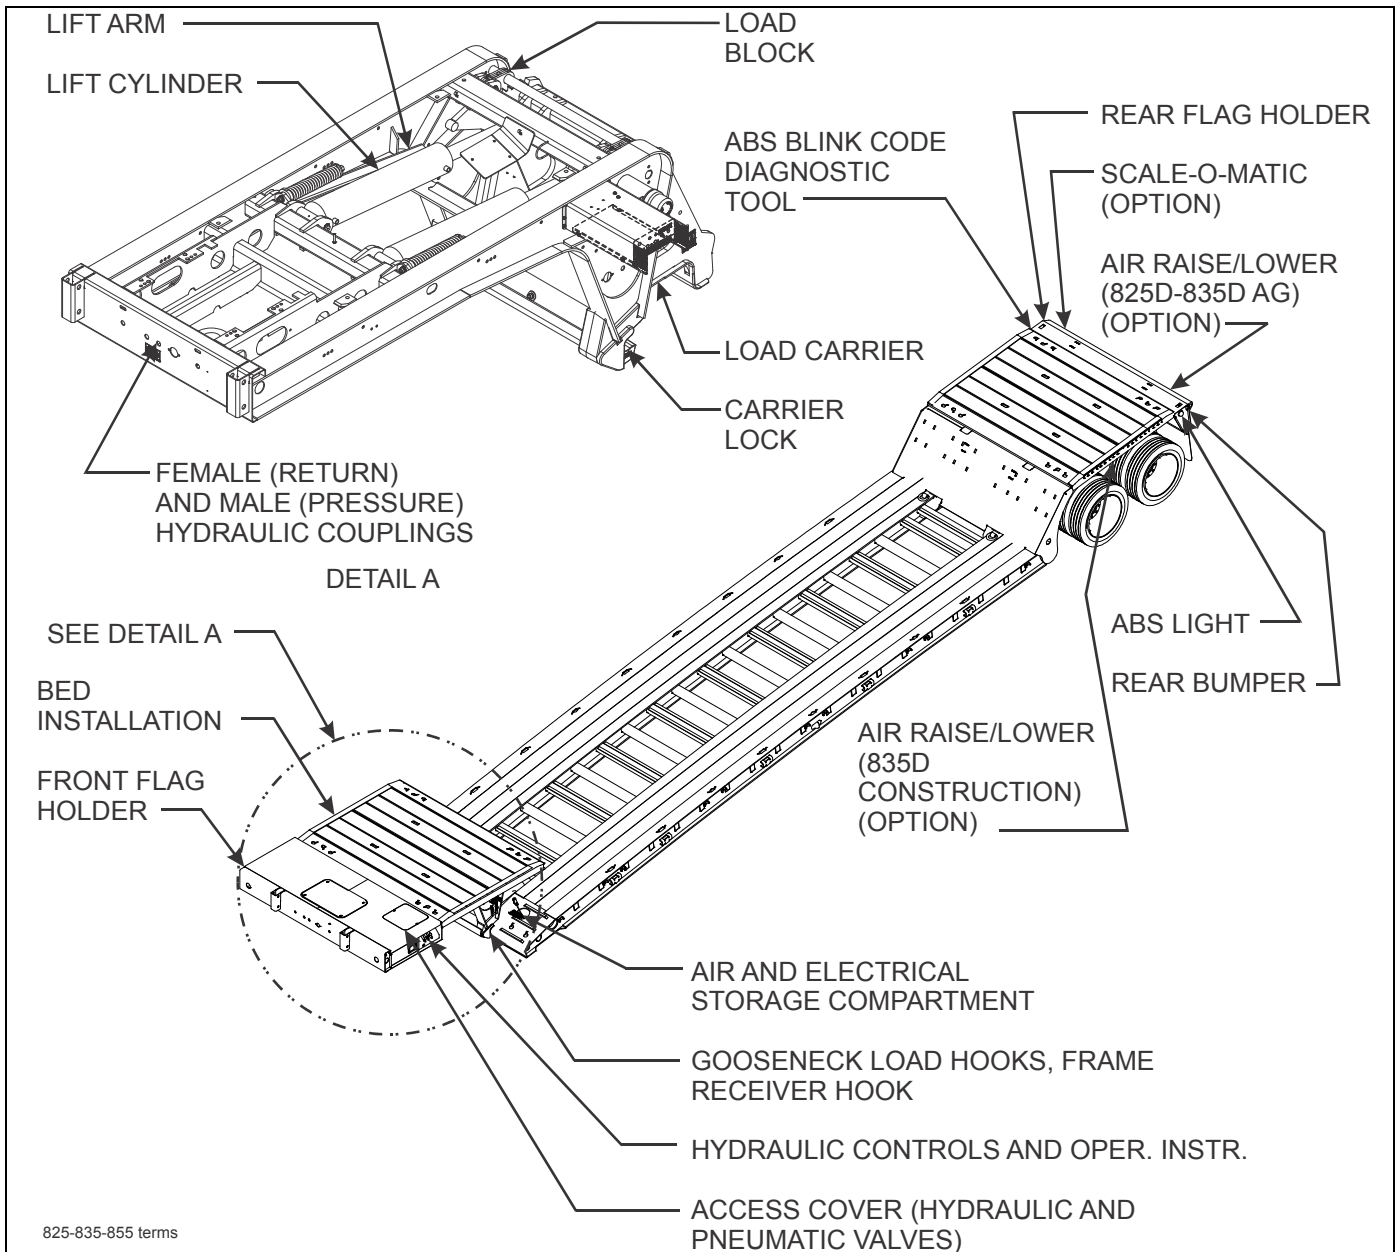

Figure 3-1: Trailer Terminology
This section supplies information for operation of the semitrailer. It describes and locates controls and gives general operation procedures. Read all instructions, warnings, cautions, and danger notes before attempting to operate the semitrailer. Operators must have proper training before operating the semitrailer. **(See Figure 3-1 for location of semitrailer parts.)**
2. Using the **TRAILER LIFT** lever, lift the trailer up until the load blocks can be lowered into position (**See Figure 3-1.**)
3. Activate the **TRAILER LIFT lever** "DOWN" until the semitrailer rests completely on the load blocks (**See "Trailer Lift Lever" on page 3-8.**) (**See Figure 3-1.**)
The **TRAILER LIFT lever** (See **Figures 3-1 and 3-3**) is located on the driver's side of the gooseneck assembly. It is the middle lever and has three positions: